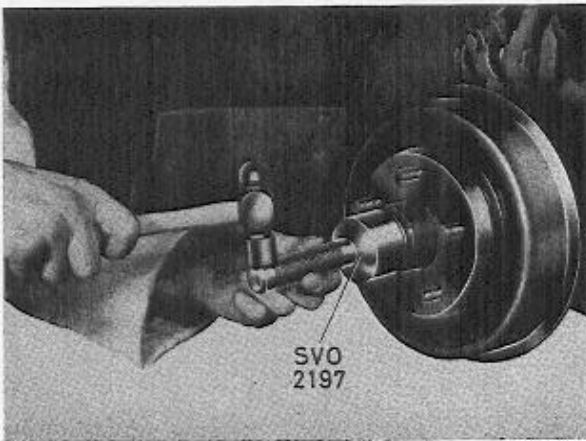
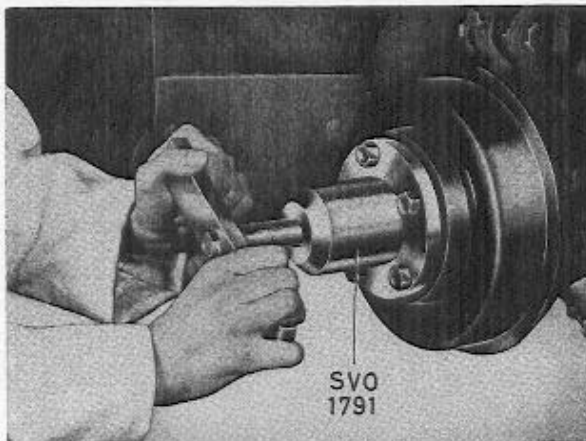
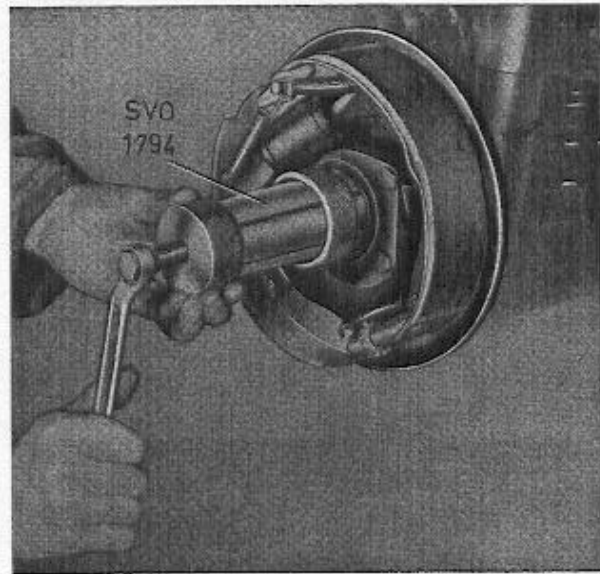

Fig. 17. Removing the grease cap.
Fig. 18. Removing the hub.
Fig. 19. Removing the inner bearing.
2. Remove the grease cap with tool SVO 2197 (Fig. 17). Remove the split pin and castle nut. Pull off the hub with tool SVO 1791 (Fig. 18). If the inner bearing does not come out, pull it off the spindle with tool SVO 1794 (Fig. 19).
2. Release the handbrake. Remove the split pin and castle nut. Pull off the hub with tool SVO 1791 (Fig. 18).
2. Remove the grease cap with tool SVO 2197 (Fig. 17). Remove the split pin and castle nut. Pull off the hub with tool SVO 1791 (Fig. 18). If the inner bearing does not come out with it, pull this off the spindle with tool SVO 1794 (Fig. 19).
2. Release the handbrake. Remove the castle nut. Pull off the hub with tool SVO 1791 (Fig. 18).